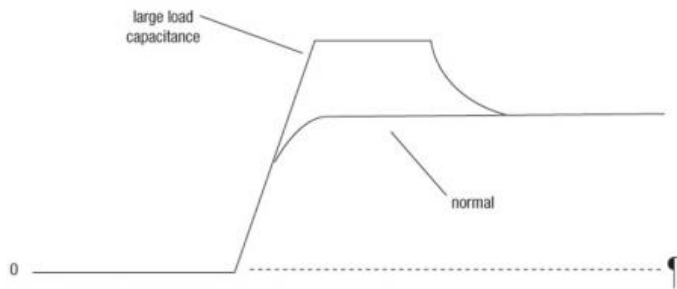

Figure 3
- Figure 3 - In this waveform of a typical turn-...
The second current peak is also considered part of the inrush current. This peak occurs when the DC/DC converter turns on and draws current from the source to charge its output capacitance and any load capacitance. Typical turn-on current waveforms are shown in Figure 3. The turn-on current is the same whether the converter is turned on by applying an input voltage or via an enable/inhibit signal. The turn-on current waveshape and peak value will be well-controlled as long as the converter has an output soft start feature. But it could require a higher peak current when starting into a large capacitive load.